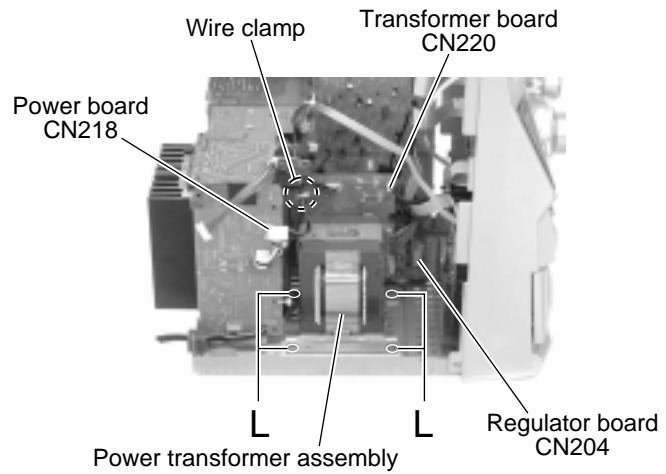

Fig.28
■ Removing the power transformer assembly (See Fig.28 and 29)
2. Remove the wire clamp on the power amplifier board (1).